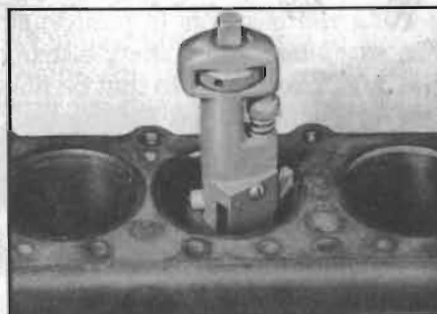

Figure 2-28—Removing Ridge from Cylinder Bore
2. Examine the cylinder bore above the ring travel. If bore is worn so that a shoulder or ridge exists at this point, remove the ridge with a ridge reamer to avoid damaging rings or cracking ring lands in piston during removal. Chamfering at 15 degrees angle will prevent ring damage when pistons are reinstalled. See figure 2-28.